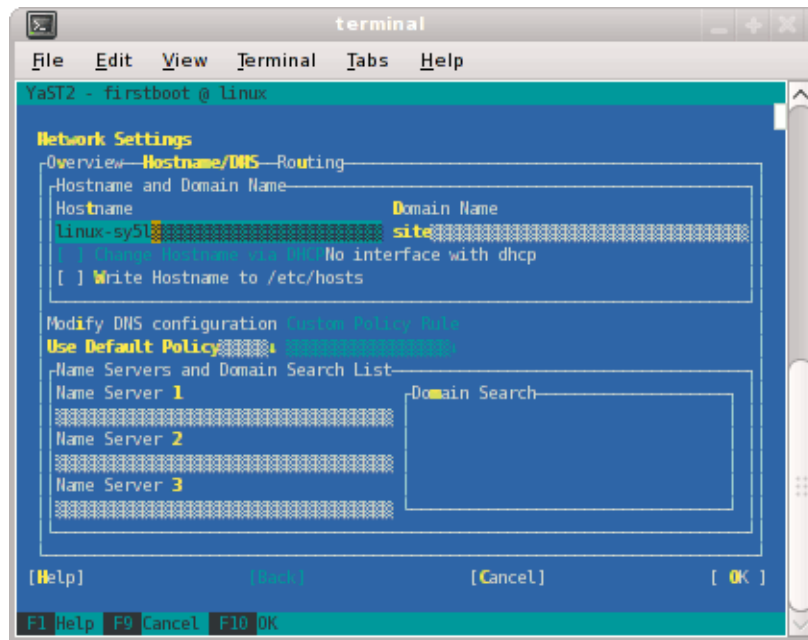

Figure 2-14 Network Settings Screen
7. At this point, you are back at the **Network Settings** screen as shown in Figure 2-14 on page 51. At this time, select **Hostname/DNS**. In this screen, you should enter your house/public network hostname and fully qualified domain names. In addition, any name servers for your house/public network should be supplied. Please select (ensure an x is in the box) for **Write hostname to /etc/hosts**. Do not select **OK** yet.